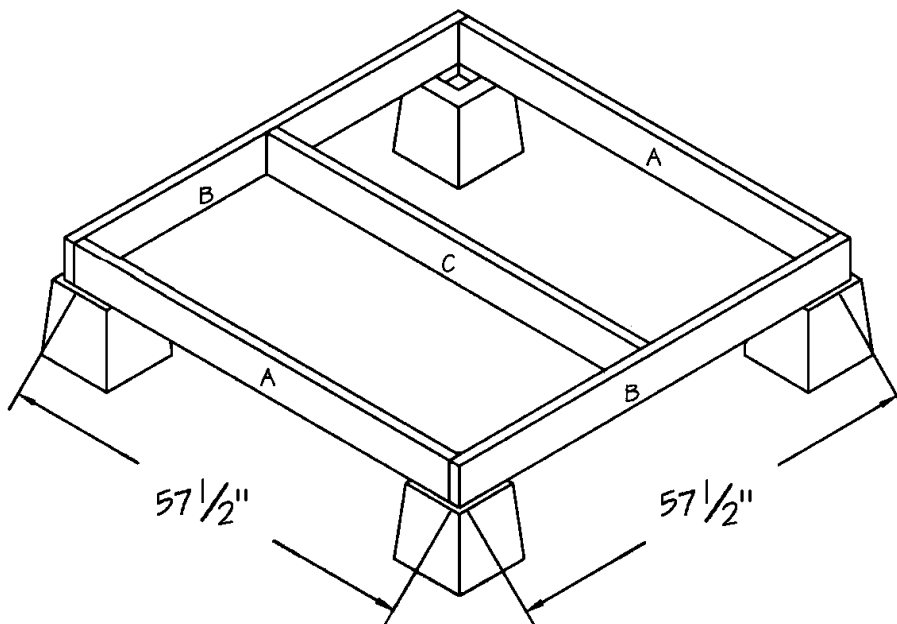

Figure 2
1. Place four concrete footings on the ground to form a square. The distance between the four outer corners of the post openings in the concrete footings should measure exactly 57-1/2 inches, as shown in *Figure 2*. When the footings are exactly square, the measurement between opposing corners should be exactly the same.
- Place the assembled bottom frame over the concrete footings as shown in *Figure 2*. To level the bottom frame, it is a good idea to enlist the assistance of a helper. Beginning at the highest corner, level each of the remaining three corners, working in rotation around the bottom frame. Use shims to level the frame. Insert the thin end of the shim underneath the Corner Post (D) until that edge of the Corner Post (D) is level.